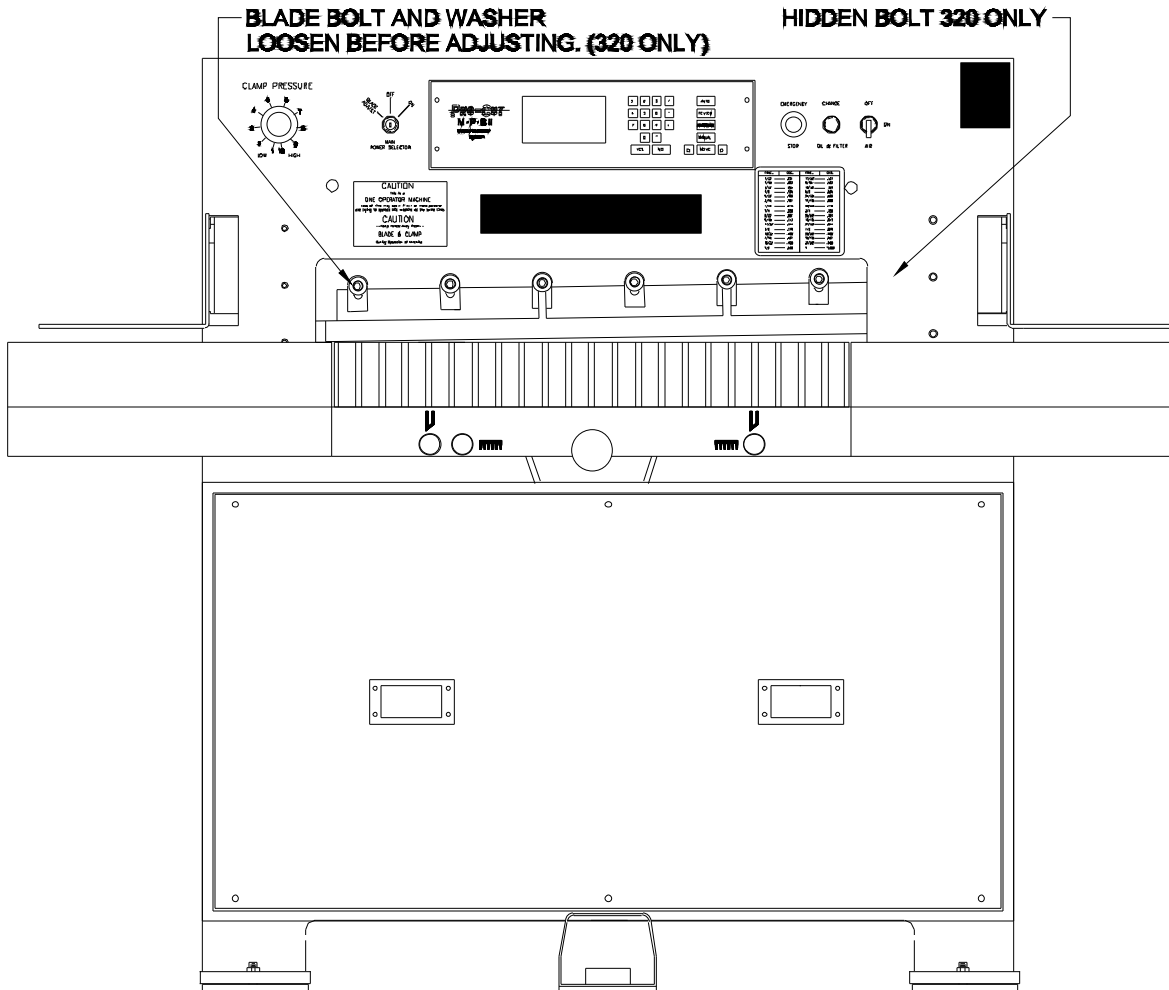

Fig. 8
9. Remove the bolts in the two (2) slotted knife bar holes and install the Blade Change Handles or the Blade Change Safety Guard. Tighten the Blade Change Handles to hold the blade in place, and remove the remaining Blade Bolts. Fig 8.
10. Clear the table and put the empty knife scabbard on the table. Remove the two (2) knife retainer screws from scabbard.
13. Thread the Blade Change Handles into the sharp knife using the lowest set of holes toward the knife-edge. Screw the Blade Change Handles all the way into the knife then back them out $1 \frac{1}{2}$ turns. Lift the knife and insert it into the left side, under the blade beam, first then to the right. Raise the knife into the two (2) slotted holes in the blade beam as high as it will go. NOTE: If the knife will not rise easily unscrew the Blade Change Handles $\frac{1}{4}$ turn at a time until the blade slides up easily. Tighten the Blade Change Handles to secure the knife.